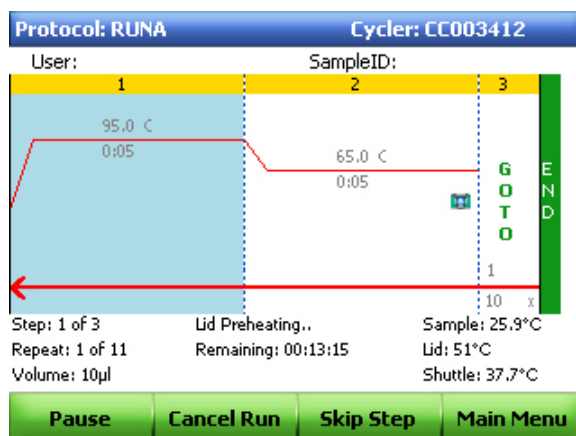

Figure 40. Monitoring run status.
- Status.** Press the **STATUS** command key to check the current status of the protocol, pause the run, cancel a run, skip a step, or access the main menu (Figure 40)